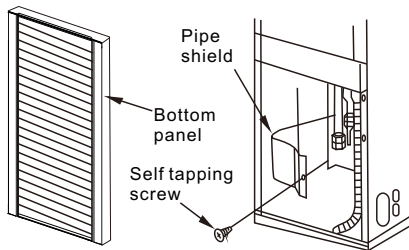

Figure 1
- 2 Remove the fixing screw from the pipe shield and take the shield off. (figure 1)